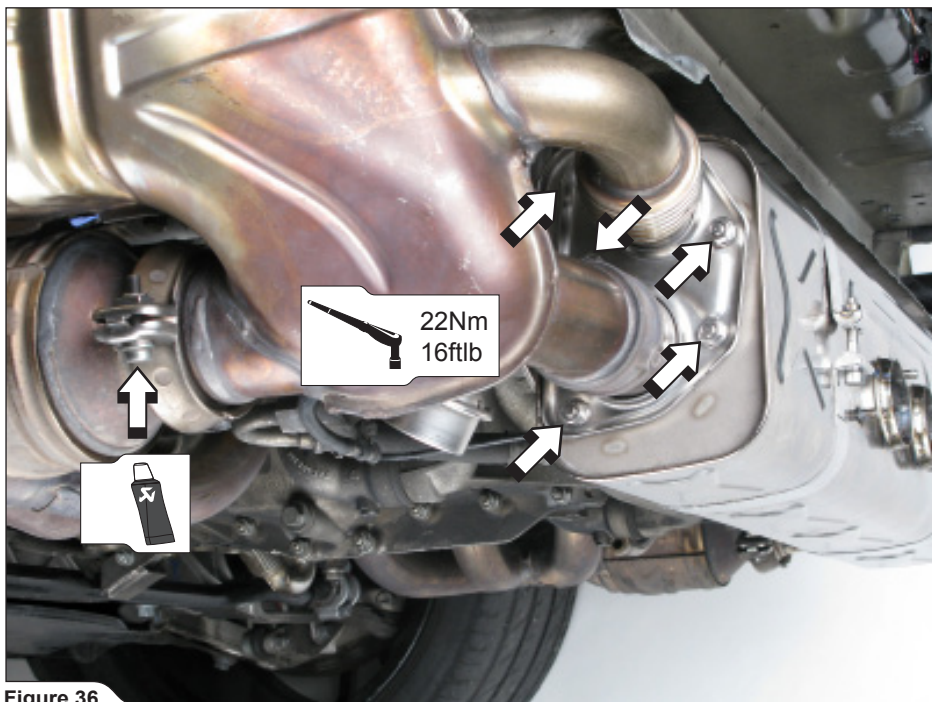

Figure 36
18. **For Slip-On:** tighten all M8 nuts on Akrapovič muffler flanges and stock clamp to a specified torque (**Figure 36**).